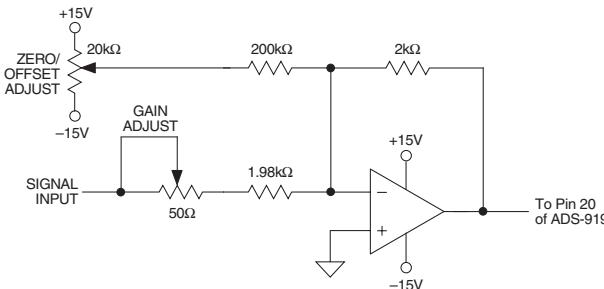

Figure 2. ADS-919 Calibration Circuit
- Obtaining fully specified performance from the ADS-919 requires careful attention to pc-card layout and power supply decoupling. The device's analog and digital ground systems are connected to each other internally. For optimal performance, tie all ground pins (14, 19 and 23) directly to a large **analog** ground plane beneath the package. Bypass all power supplies and the REFERENCE OUTPUT (pin 21) to ground with 4.7µF tantalum capacitors in parallel with 0.1µF ceramic capacitors. Locate the bypass capacitors as close to the unit as possible. If the user-installed offset and gain adjusting circuit shown in Figure 2 is used, also locate it as close to the ADS-919 as possible.
- The ADS-919 achieves its specified accuracies without the need for external calibration. If required, the device's small initial offset and gain errors can be reduced to zero using the input circuit of Figure 2. When using this circuit, or any similar offset and gain-calibration hardware, make adjustments following warmup. To avoid interaction, always adjust offset before gain.
(Refer to Figures 2 and 3)
Any offset and/or gain calibration procedures should not be implemented until devices are fully warmed up. To avoid interaction, offset must be adjusted before gain. The ranges of adjustment for the circuit of Figure 2 are guaranteed to compensate for the ADS-919's initial accuracy errors and may not be able to compensate for additional system errors.
All fixed resistors in Figure 2 should be metal-film types, and multiturn potentiometers should have TCR's of 100ppm/ $^{\circ}$ C or less to minimize drift with temperature.